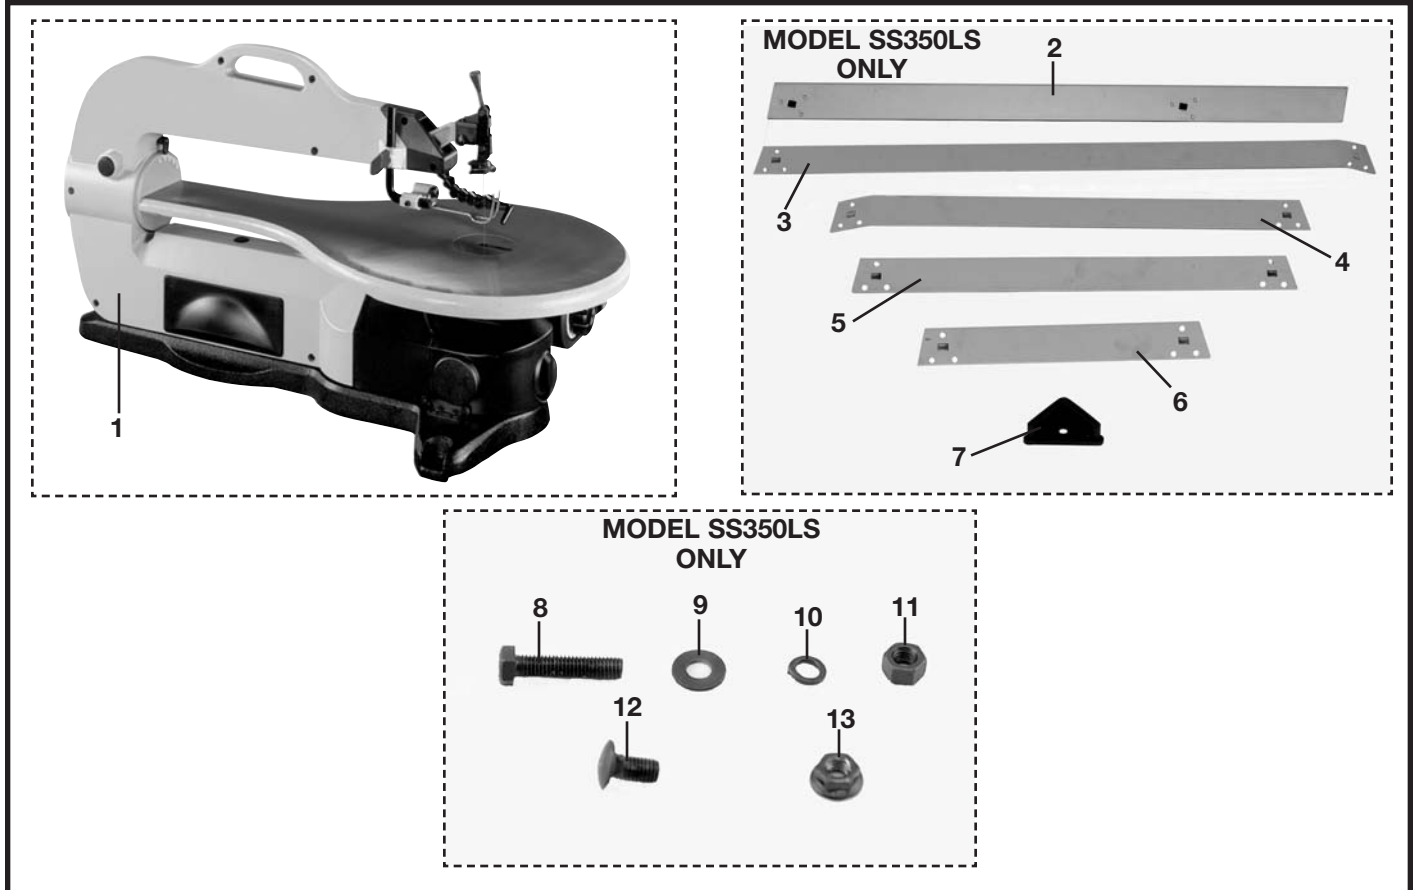
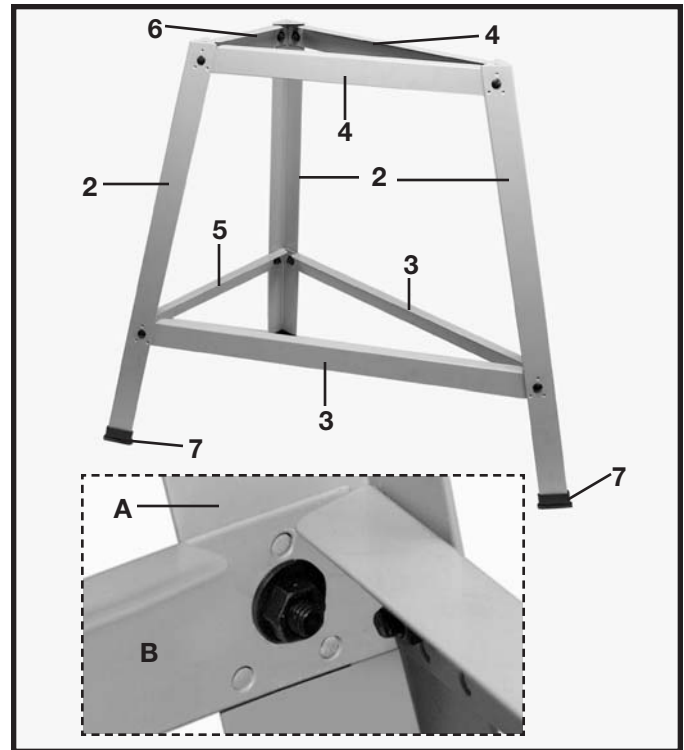

Fig. 1
Fig. 2
Assemble stand as shown in Fig. 2 using parts shown in Fig. 1. The braces, legs and feet are labeled the same in both illustrations. Insert the M8x1.25x16mm carriage head screws through legs and braces then secure with the M8x1.25 flange hex nuts. Loosely tighten hardware at this time.
NOTE: MAKE SURE THAT THE DIMPLES ON THE LEGS (A) FIG. 2 ARE ENGAGED WITH THE HOLES ON THE BRACES (B).